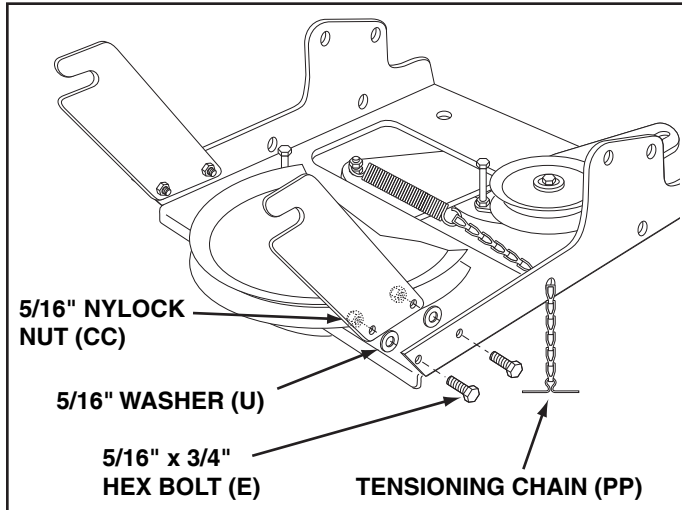

FIGURE 35
STEP 35: (SEE FIGURE 35)
- Attach the two suspension arms to the inside of the clutch/idler assembly using two 5/16" x 3/4" hex bolts (E), 5/16" washers (U) and 5/16" nylock nuts (CC) for each arm. Place the washers between the arms and the assembly frame.